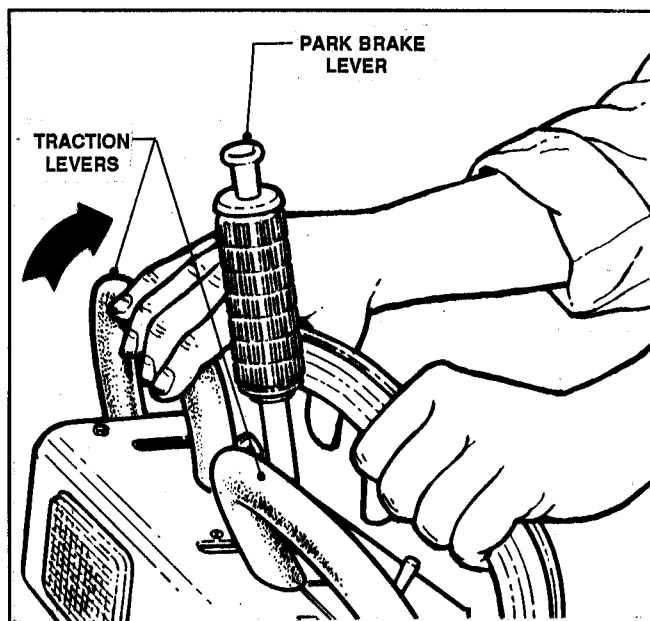

FIGURE 11A
15. THE MOWER IS TURNED by clutching wheel belts while engaging wheel brakes - turn left by pulling the left hand TRACTION LEVER or turn right by using the right hand TRACTION LEVER. See Figure 11A. The more pressure applied while pulling the Lever, the sharper the mower will turn.